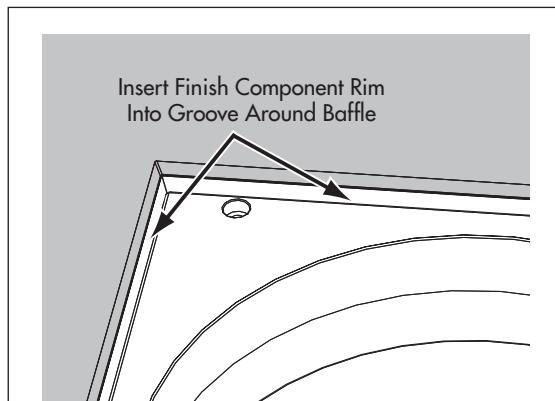

Figure 14: Attaching the Architectural Finish Component To The Adaptor Baffle
1. The foam-tape covered rim on the back of the Finish Component inserts into the groove around the outer edge of the Adaptor Baffle. See *Figure 14*.